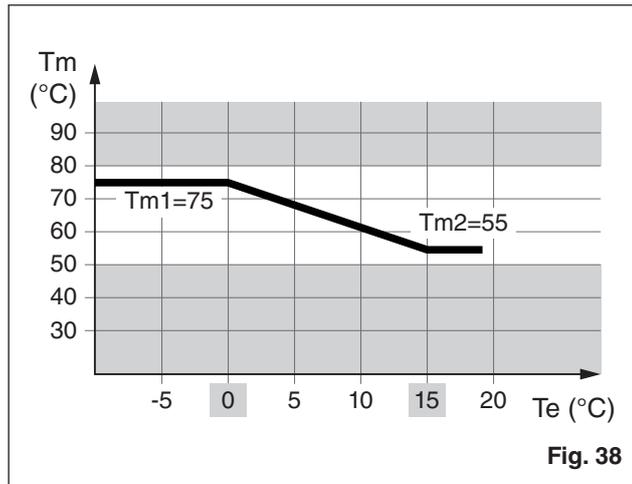

Fig. 38
Fig. 38 contains an example of the curve that determines the relationship between the delivery temperature to the system (TM) and the external temperature (TE).